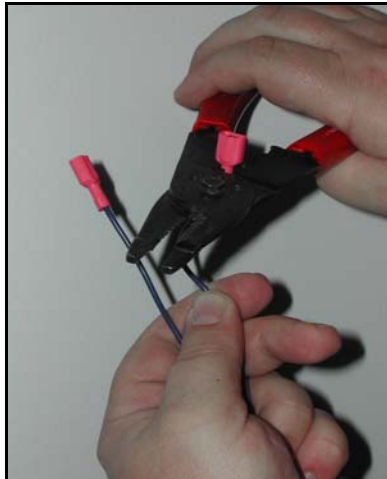

Figure 7
3. Attach the two male wire connectors to installer supplied wire leads (See Figure 7), connect them to the